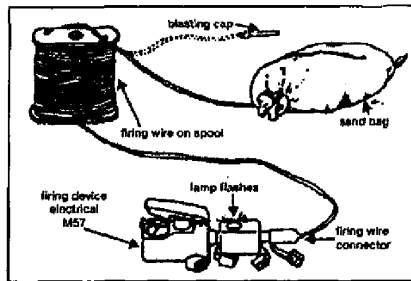

Figure 071-325-4425-3. Circuit test of the M18A1 Claymore mine firing system
- g. Plug the connector of the firing wire into the test set (figure 071-325-4425-3).